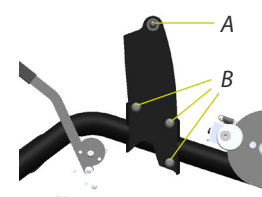

Fig 5
7. Switch to the desired balancing plates by removing the screws (B, fig 5), changing plates, and attaching again with the same screws.